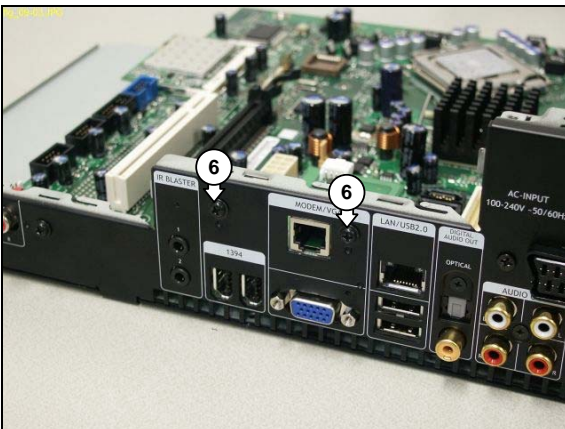

Figure 12.9-3
8. Remove the 2 mounting screws (6) from the RJ11 connector subassembly. See Figure 12.9-3.